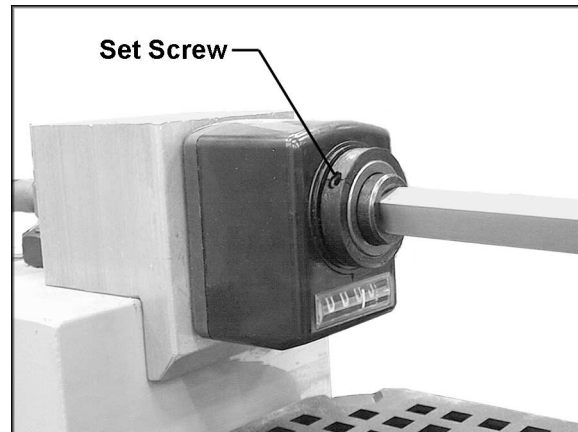

Figure 14
2. Loosen the set screw (Figure 14) with a 2.5mm hex wrench. Rotate the crank handle to move the boring head to desired height. The display will remain at zero while the head travels, as long as the set screw is loose.